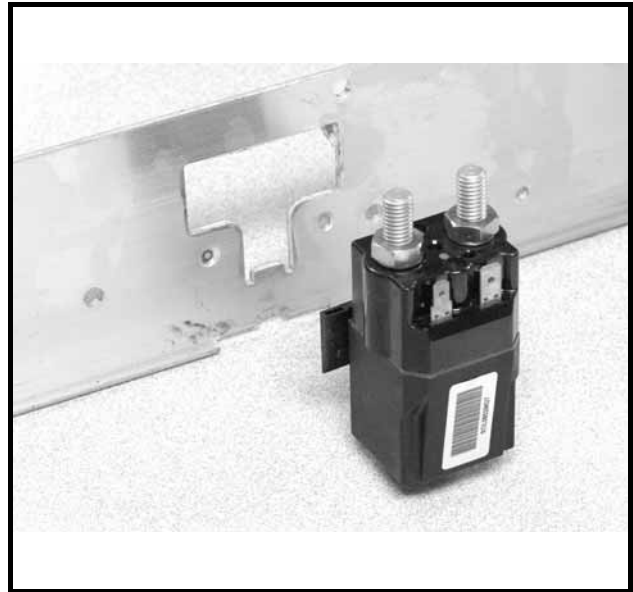
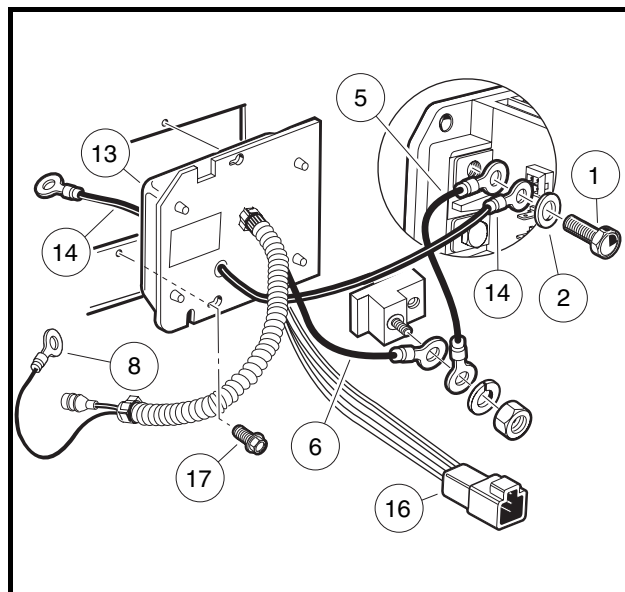
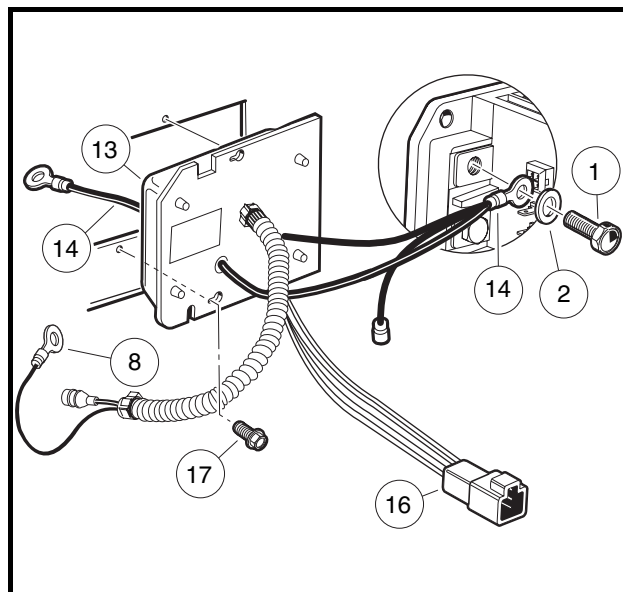

Figure 13-8 Slot-Mounted Solenoid
Figure 13-9 Early Onboard Computer
Figure 13-10 Later Onboard Computer
2. Remove rear body access panel and unplug the six-pin connector (16) at the OBC (**Figure 13-8, Page 13-10**) or (**Figure 13-9, Page 13-10**).
3. Remove the two screws (5) from the speed controller cover (1) and remove the cover (**Figure 13-10, Page 13-12**).
4. Remove the wire tie (3) securing the speed controller wires to the mounting plate.
5. Remove black 6-gauge wire (14) from the speed controller B- terminal (**Figure 13-8, Page 13-10**) or (**Figure 13-9, Page 13-10**).
6. Early OBC Only: Remove the black 10-gauge wire (5) from the speed controller B- terminal and black 10-gauge wire (6) from the accessory mounting terminal (**Figure 13-8, Page 13-10**).
8. Disconnect the black 10-gauge wire (8) at the charger receptacle.
10. Loosen, but do not remove, the two self-tapping screws (17) holding OBC to component mounting plate.
11. Slide OBC towards outside of vehicle and align heads of self-tapping screws (17) with the two holes in the OBC face plate. Pull OBC towards rear of vehicle and remove from component mounting plate.
3. Install the OBC onto the component mounting plate by aligning the two holes on the OBC face plate with two holes on component mounting plate. Slide OBC towards inside of vehicle and align heads of self-tapping screws (17) with smaller part of two holes in OBC face plate (**Figure 13-8, Page 13-10**) or (**Figure 13-9, Page 13-10**). Tighten screws to 60 in-lb (6.7 N·m). **See following NOTE.**
4. Secure the OBC wire harness (consisting of the black 10-gauge wire (8) and the gray wire fuse holder) to the I-beam with wire ties (**Figure 13-8, Page 13-10**) or (**Figure 13-9, Page 13-10**).
5. Connect the black 10-gauge wire (8) to the charger receptacle (**Figure 13-8, Page 13-10**) or (**Figure 13-9, Page 13-10**). Tighten to 23 in-lb (2.6 N·m).
7. Early OBC Only: Connect the black 10-gauge wire (6) and the black 10-gauge wire (5) to the accessory mounting terminal. Install the nut on the accessory terminal and tighten to 9 ft-lb (12.2 N·m) (**Figure 13-8, Page 13-10**).
8. Connect the black 6-gauge wire (14) (and black 10-gauge wire (5), if early OBC) to the speed controller B– terminal with the washer (2) and bolt (1) and tighten to 9 ft-lb (12.2 N·m) (**Figure 13-8, Page 13-10**) or (**Figure 13-9, Page 13-10**).
9. Plug the six-pin connector (16) from the OBC into the vehicle wire harness.
10. Install a wire tie (3) to tightly secure the speed controller wires to the component mounting plate (**Figure 13-10, Page 13-12**).
11. Place the edge of the speed controller cover (1) into the slot (2). Press the controller cover onto the component mounting plate over the speed controller and install the two screws (5) (**Figure 13-10, Page 13-12**). Tighten the screws (5) to 60 in-lb (6.8 N·m). **See following NOTE.**
- Place the edge of the speed controller cover (1) into the slot (2). Press the controller cover onto the component mounting plate over the speed controller and install the two screws (5) (**Figure 13-10, Page 13-12**). Tighten the screws (5) to 60 in-lb (6.8 N·m). **See following NOTE.**